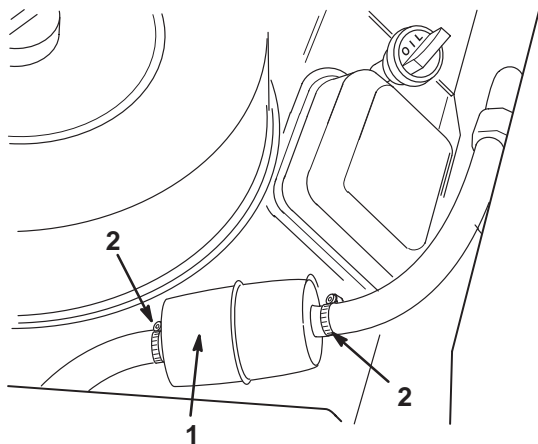

Figure 26
- Close fuel shut off valve, loosen the hose clamp on the carburetor side of filter and remove the fuel line from the filter (Fig. 26).